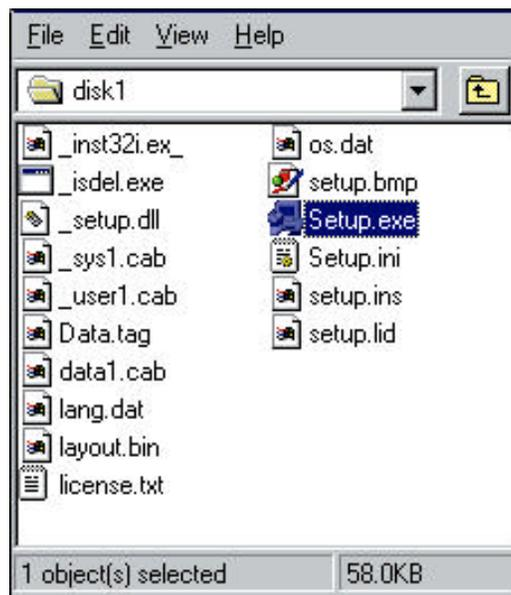

Figure 3: Setup Icon
7. Now simply double-click the *Setup* icon (Figure 3) to launch the Oxygen 3D Family software installer.